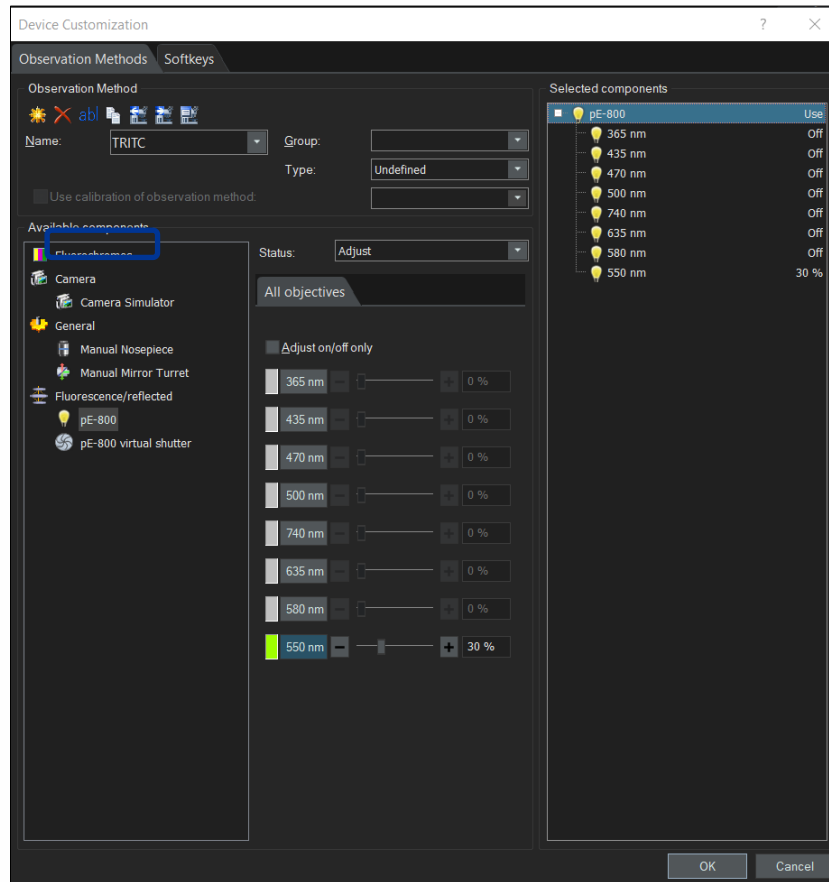

Figure 10: Configuring the new 'Observation Method' by selecting Fluorochrome (blue box) and adjusting LED selection and intensity
3. Assign the fluorochrome by selecting 'Fluorochrome' (blue box in Figure 10), selecting the relevant fluorochrome from the list.